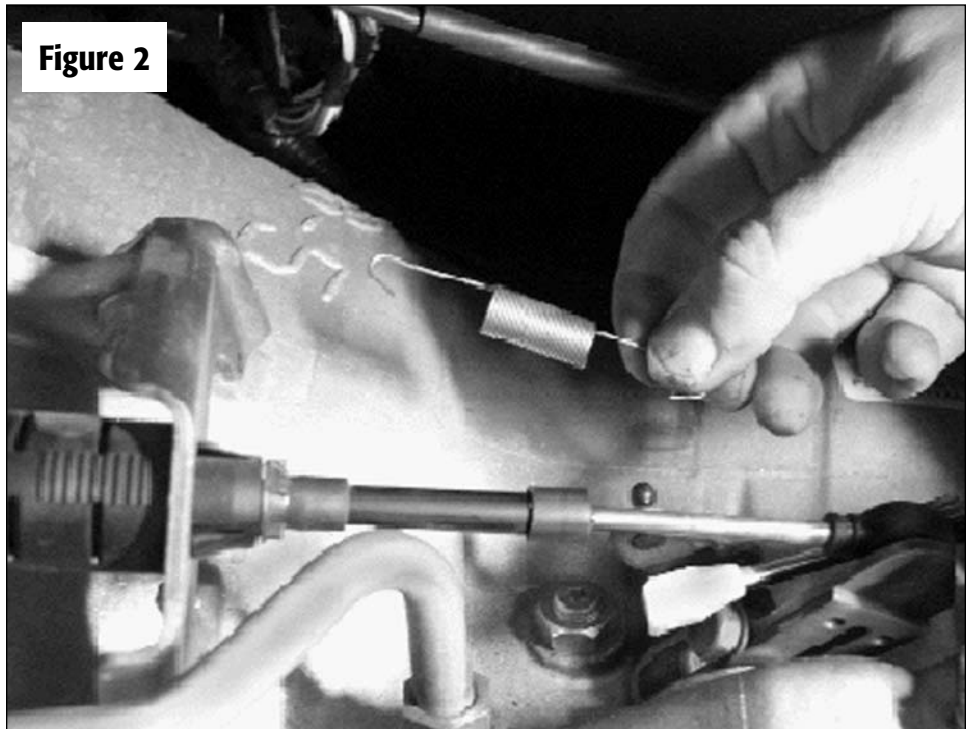

Figure 2
5. Disconnect the return spring attached to the kick-down lever as shown in **Figure 2**. Retain the spring for reuse later.